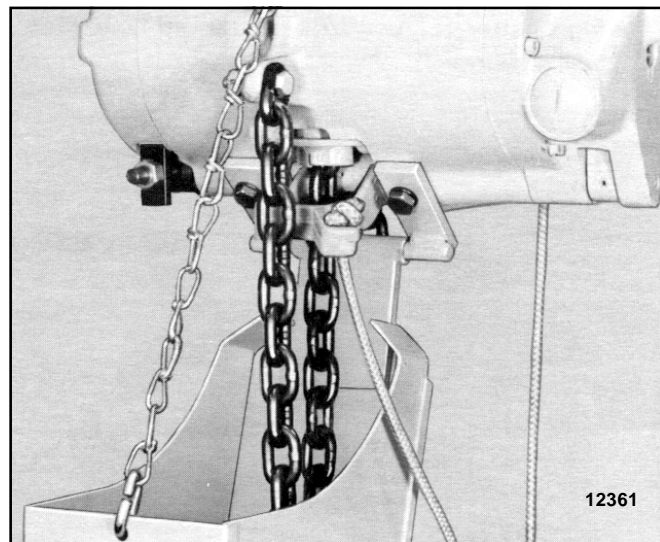

Figure 3. View Showing Hanger Bracket Bolted to Hoist Frame
2. Position container at bottom of hoist with hanger bracket holes aligned with tapped holes on sides of control shaft bosses (Figure 3)., Secure bracket with two 5/16-18x5/8" hex head bolts and lockwashers provided.